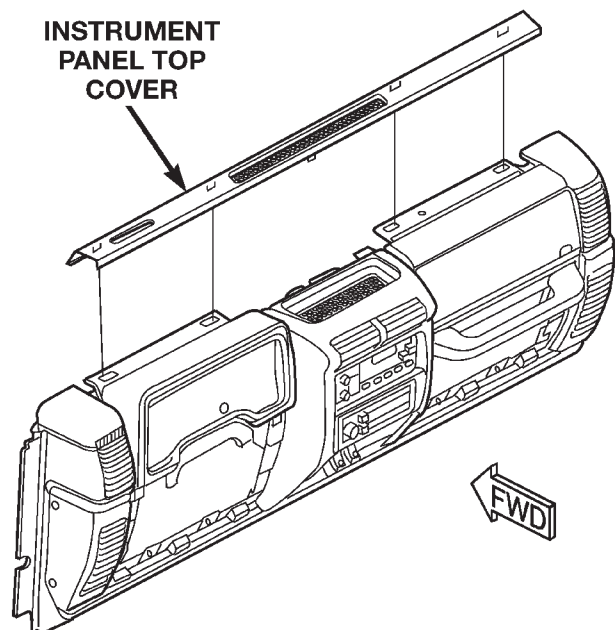

Fig. 6 Instrument Panel Top Cover Remove/Install
- (1) Disconnect and isolate the battery negative cable.
- (2) Using a trim stick or another suitable wide flat-bladed tool, gently pry the instrument panel top cover up and away from the instrument panel far enough to disengage the five snap clip retainers from their receptacles in the instrument panel (Fig. 6).